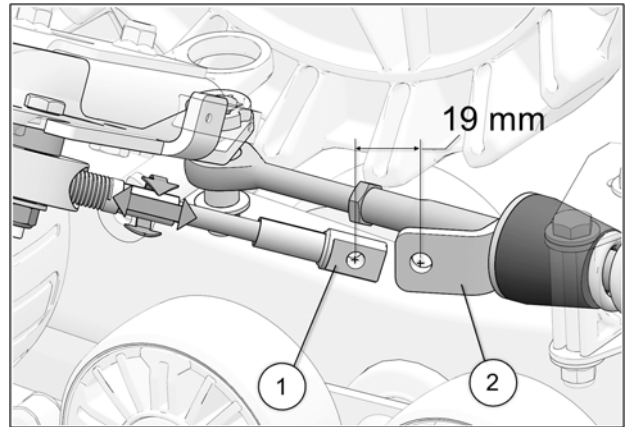

Fig. 20
14. Turn the vehicle's steering wheel to its maximum point of travel on the left. While maintaining pressure on the steering wheel, turn threaded rod to adjust length of cable. See Fig. 20
15. Position cable end hole (1) 19mm [3/4 in. ] short of support plate (2) mounting hole. See Fig. 20